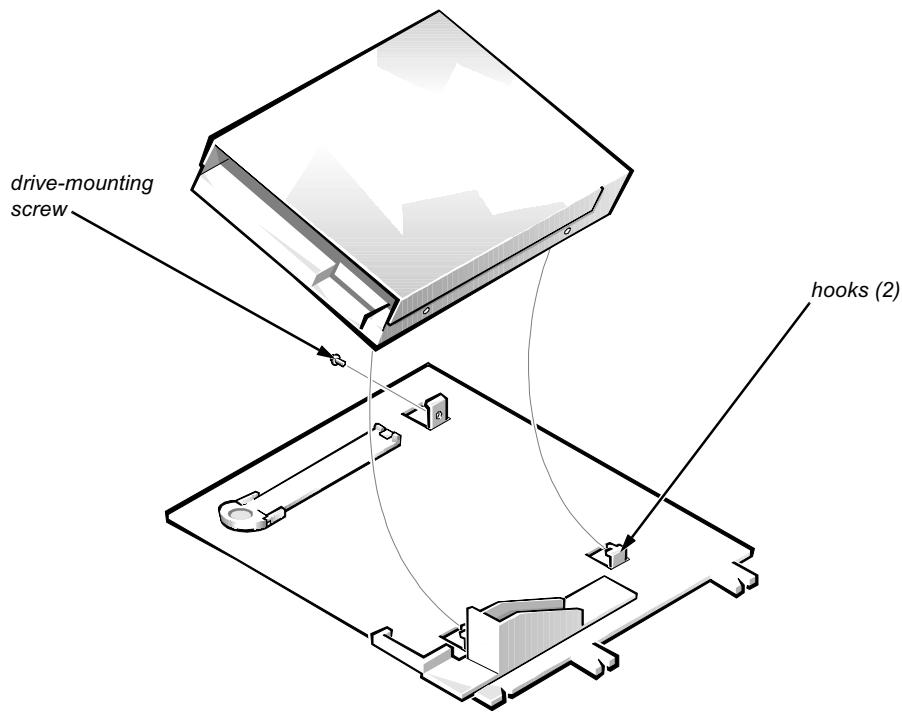

Figure 6-10. 3.5-Inch Diskette Drive Removal
- 3. Remove the drive-mounting screw from the left side of the drive, and remove the drive from the bracket (see Figure 6-10).**